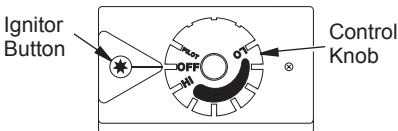

Figure 40 - Control Knob In The OFF Position
4. Wait five (5) minutes to clear out any gas. Then smell for gas, including near the floor. If you smell gas, **STOP!** Follow "B" in the safety information in column 1. If you don't smell gas, go to the next step.
5. Turn control knob counterclockwise  to the PILOT position. Press in control knob for five (5) seconds (see Figure 40, page 23).